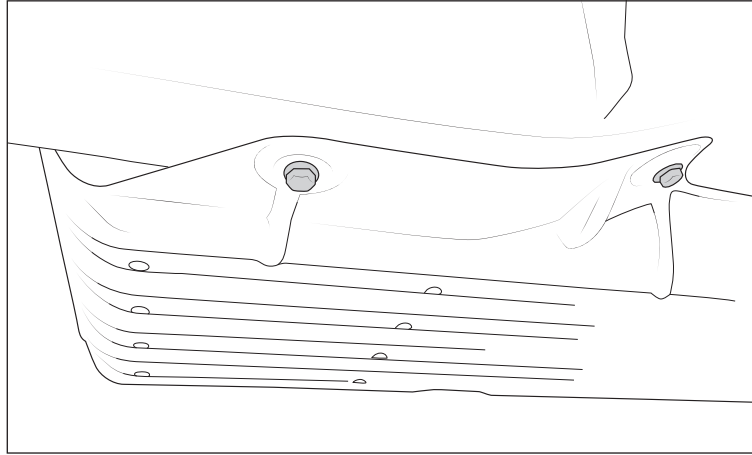

Figure 8
6. Attach the skid plate to the truck (fig. 8):